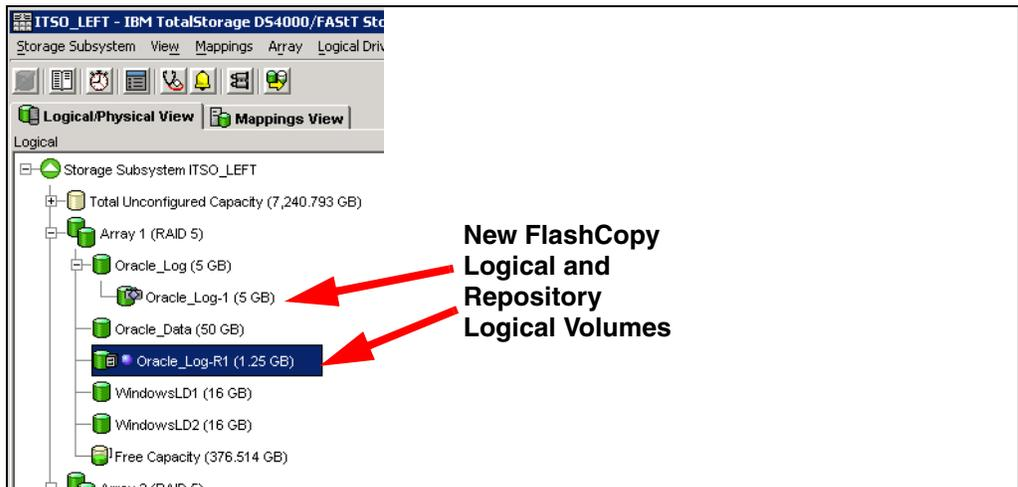

Figure 7-11 New FlashCopy volume in subsystem management
- e. Now you can see the newly created FlashCopy logical drive and its associated repository logical drive from the Subsystem Management window. See Figure 7-11.